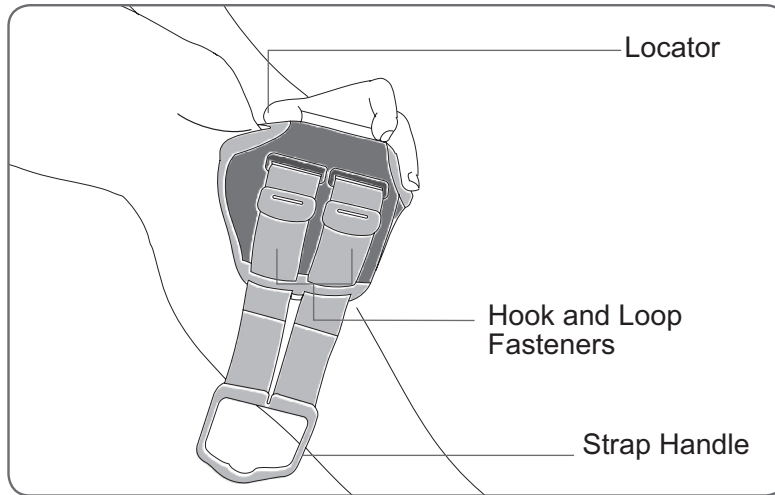

Figure 23: Tilting the L300 FS Cuff for placement on your leg.
2. Make sure the electrodes are attached to the electrode bases. Then, grasp the front of the FS Cuff by the cradle and tilt the bottom of the FS Cuff up. Slide the locator up your leg until it rests snugly and comfortably below your kneecap. See Figure 23.